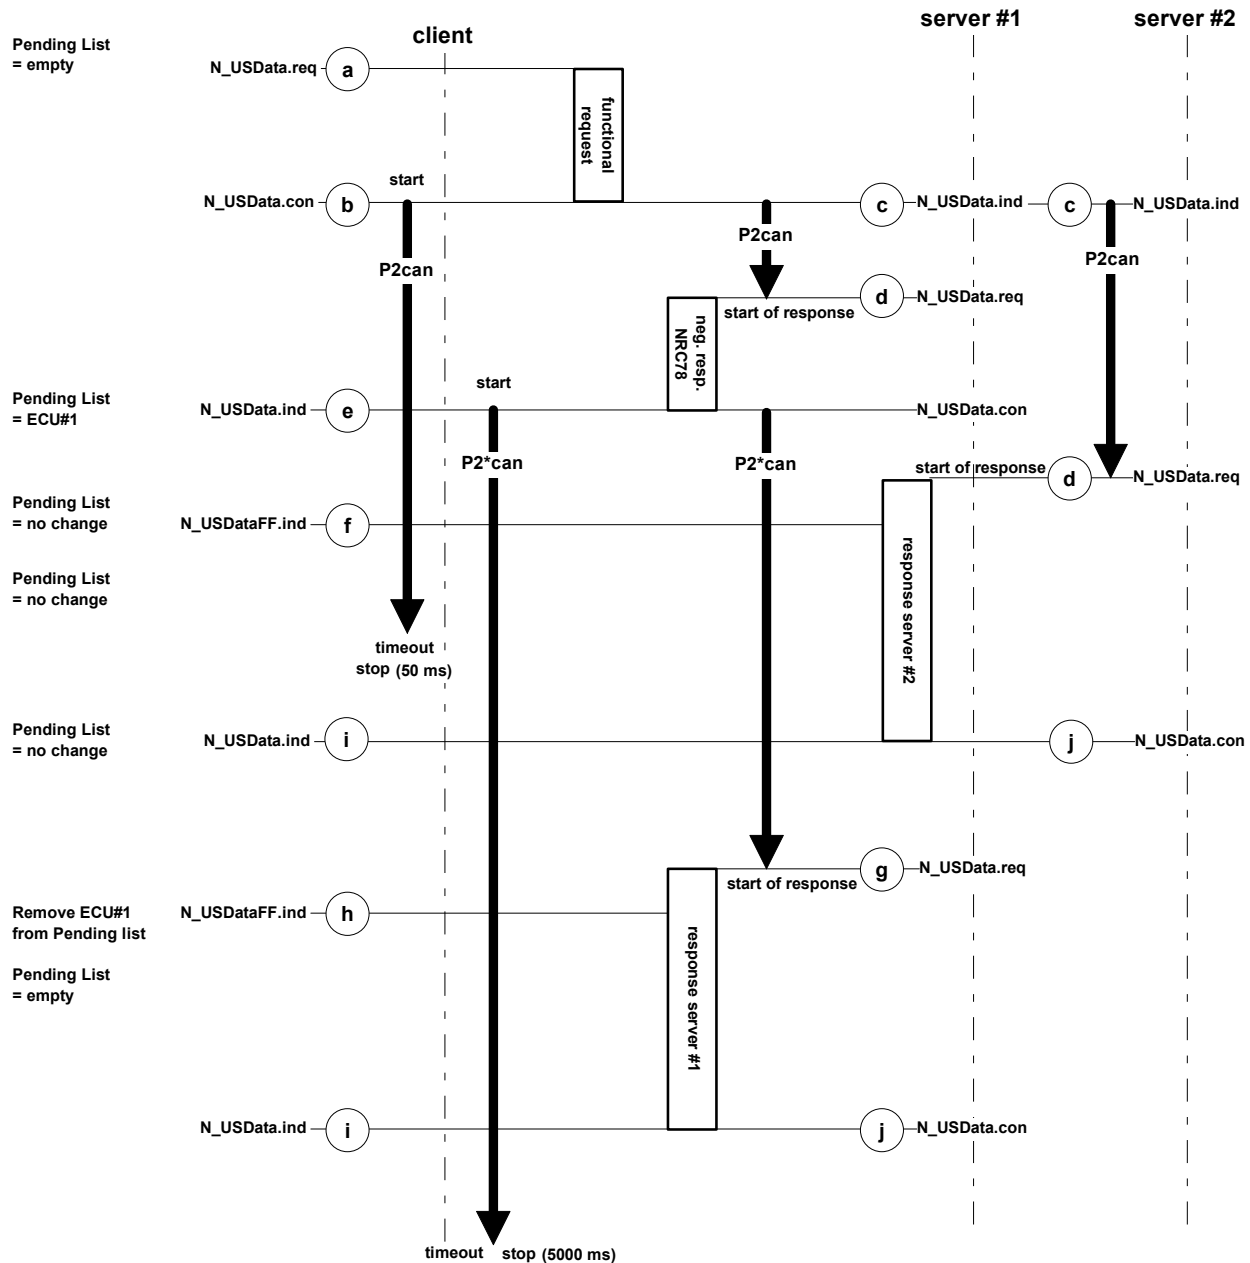

FIGURE 3 - FUNCTIONAL OBD COMMUNICATION – ENHANCED RESPONSE TIMING
Figure 3 graphically depicts the timing handling in the client and two (2) servers for a functionally addressed request message during the default session, where one server requests an enhanced response timing via a negative response message including response code 78 hex. A description follows the figure that references the points marked in Figure 3.
- h. Server #1 transmits a FirstFrame of a multi-frame response message within P2\*CAN. The reception of the FirstFrame is indicated in the client network layer by a N\_USDataFF.ind. Figure 3 shows when the client receives the start of the response message of the server #1. The client removes server #1 from the internal list of pending response messages.